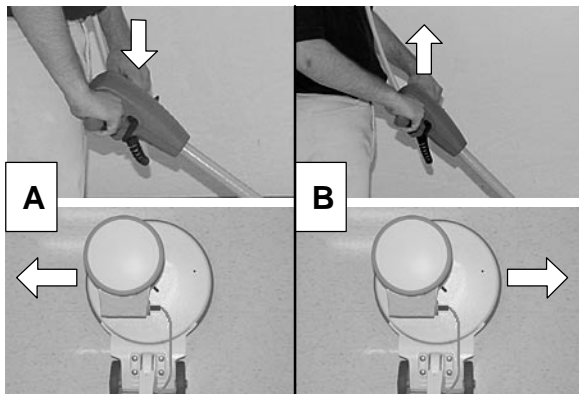

FIG. 12
- To move the machine left (A), slightly lower the handle. To move right (B), slightly raise the handle. Operate the machine with a side to side motion (Figure 12).